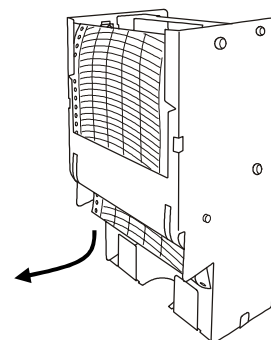

Fig. 4
5. Take out the battery. (Fig. 4)
The used paper left in the used recording paper compartment can cause a malfunction. Be sure to remove it. See Fig. 4.